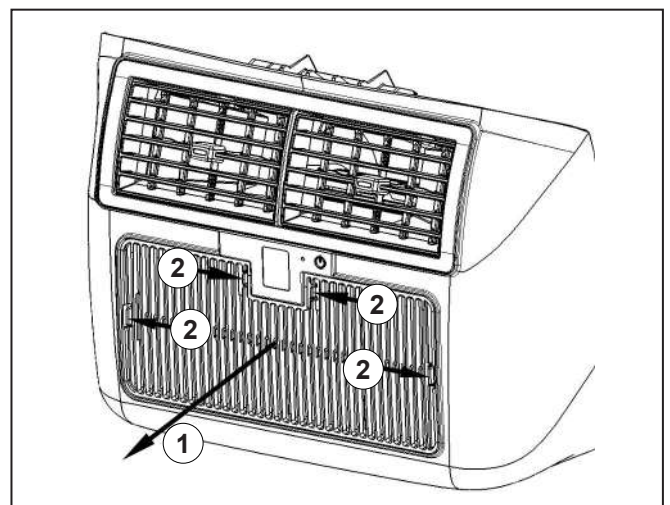

Fig. 7
1. Press the four retainer springs ("Fig. 7" ref.1) and remove the front grille ("Fig. 7" ref.2)